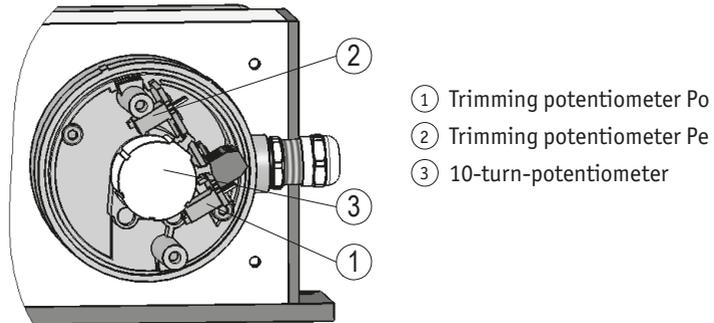

Fig. 16: Setting the trimming potentiometers MWI
Via two trim potentiometers P_e (②) and P_o (①) (see Fig. 16) these values can be adjusted to the application's actual start and end position.